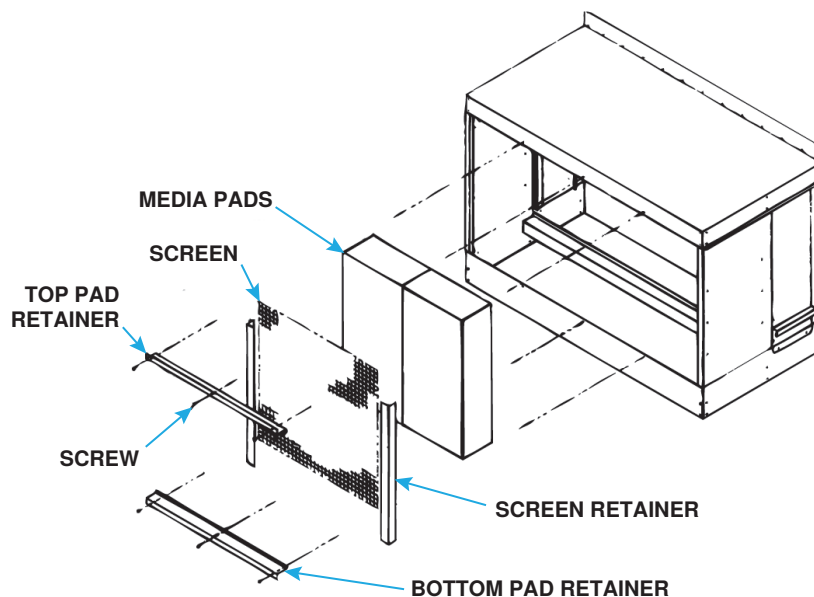

Figure 6. Media Pad Assembly
1. Remove media pads (see Figure 6):